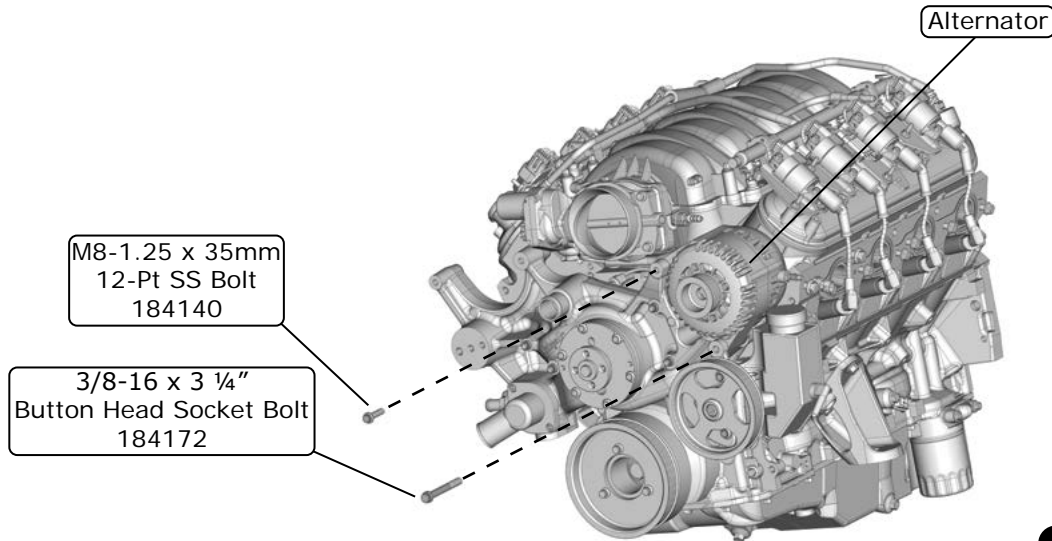

Figure 3
- For system **without power steering**, secure lower alternator boss with 3/8-16 x 3 1/4" button head SS bolt torqued to 15 lb-ft (See Figure 3, below).